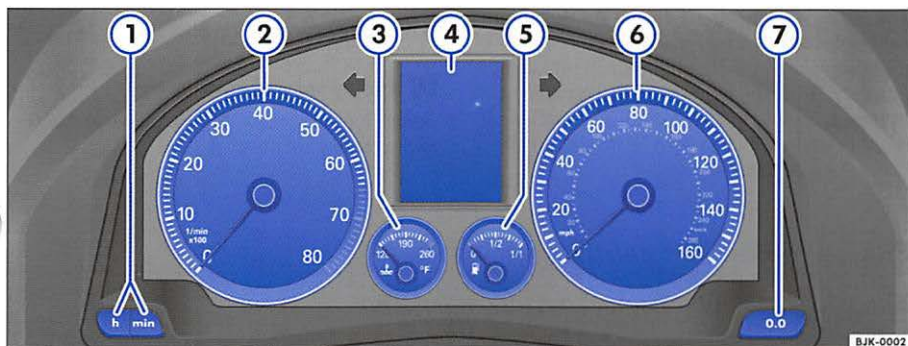

Fig. 2 Detail of instrument cluster
The right-hand counter ③ registers the short trips. The final digit in the trip counter shows distances of 100 yards (meters) The trip counter can be reset by pressing the button  (⇒page 5, fig. 2 ⑦). ◀